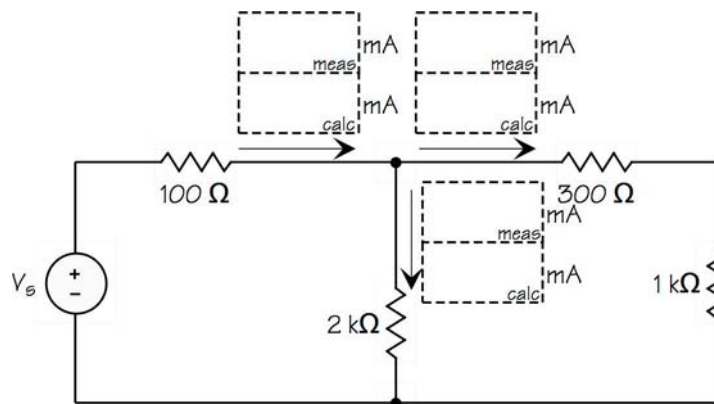

Fig. 4—Circuit for current data
1. Measure the three currents that involve the node that is the junction of the three resistors at the top of the circuit. Remember that you must interrupt the path of the current and put the ammeter into that opening to measure current. Notice the arrows that give the reference directions of the three currents. All data collected go in the upper boxes of the pairs of boxes in Fig. 4.
1. Use Ohm's Law to calculate the three currents. You have collected the voltage data for each of the resistors. Apply Ohm's Law and use the Passive Sign Convention to compute the three currents. Then fill in the three lower boxes of the pairs of boxes in Fig. 4.